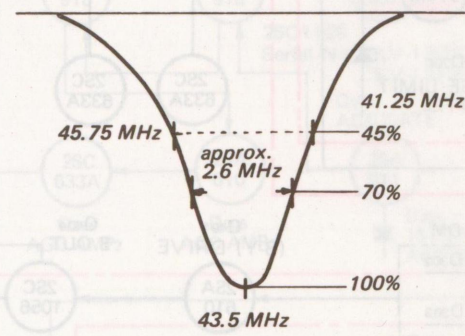

Fig. 5-16. Mixer output response curve
- 6. Adjust i-f transformer to obtain the waveform shown in Fig. 5-16.